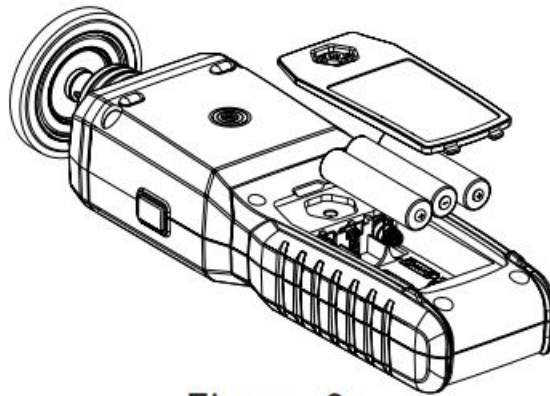

Figure. 9
- a. The product is powered by three 1.5V AAA batteries. Please refer to Figure 9 to install or replace the batteries.